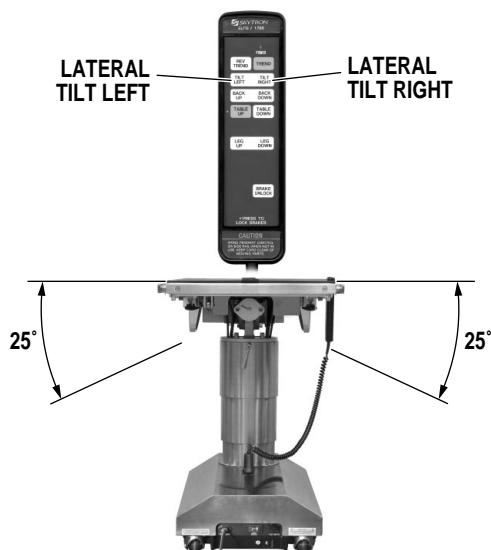

Figure 2-5. Lateral Tilt Positioning
c. Lateral Tilt. To achieve lateral tilt right (as viewed from the head end of the table), press the TILT RIGHT button (figure 2-5). Tilt of up to 25° may be obtained. To achieve lateral tilt left, press the TILT LEFT button. Tilt of up to 25° may be obtained.